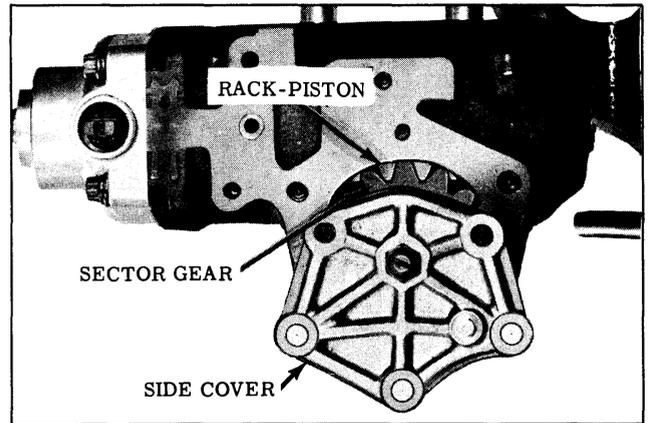

Fig. 5-29 Aligning Pitman Shaft for Removal
10. Align pitman shaft gear with opening in housing. (See Fig. 5-29)